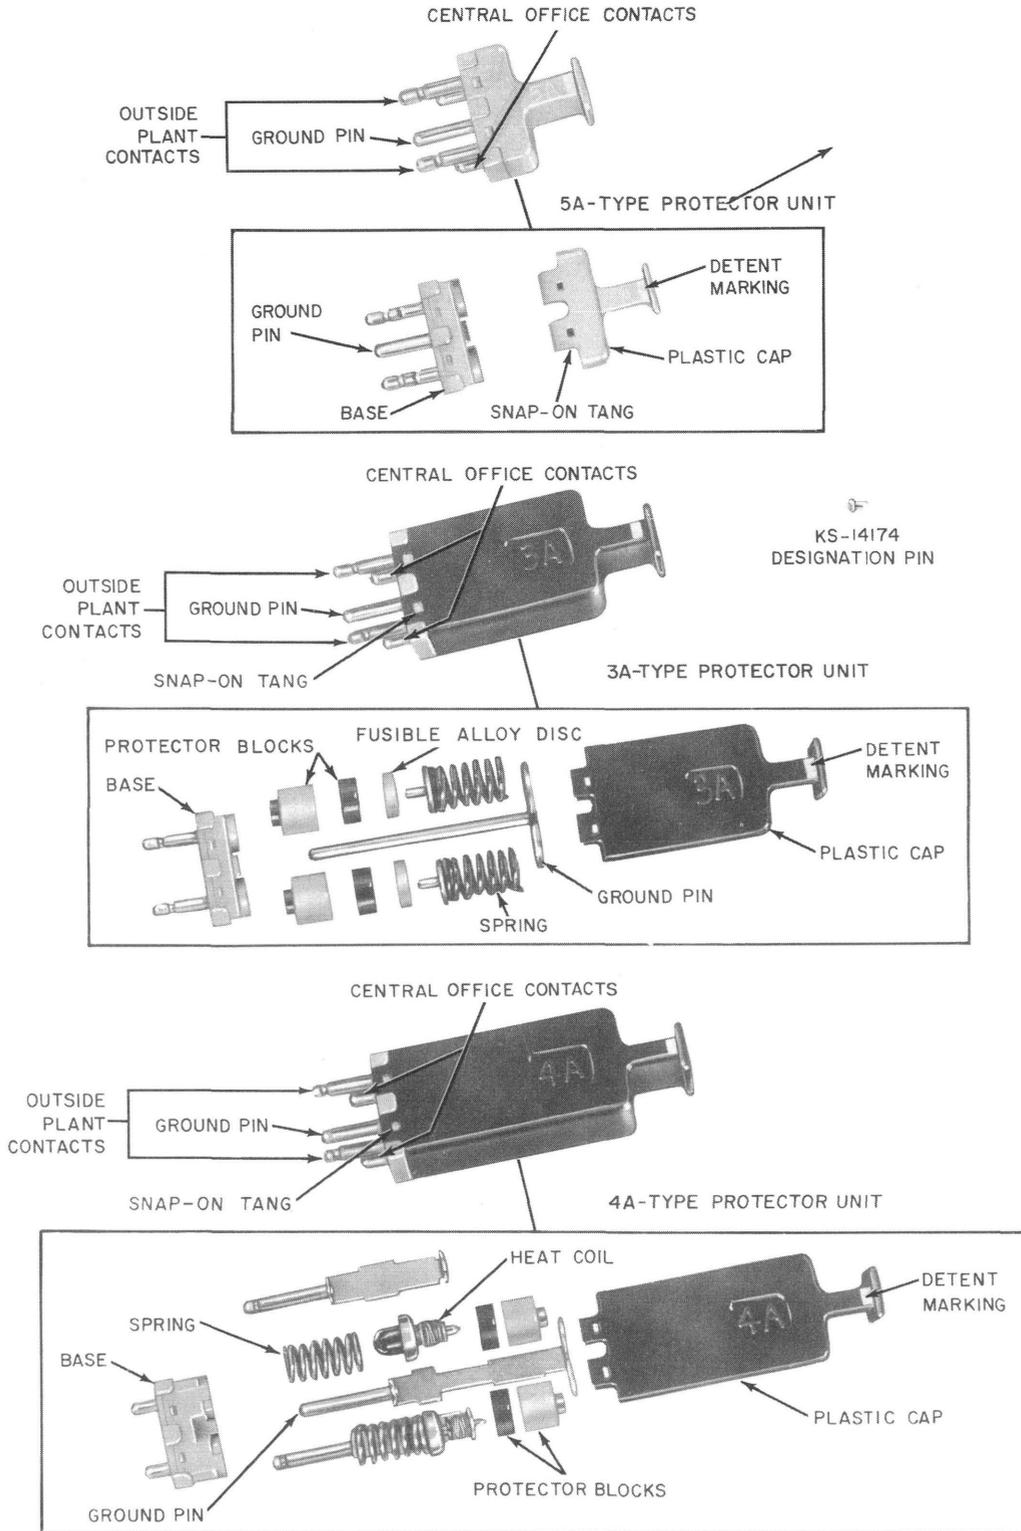
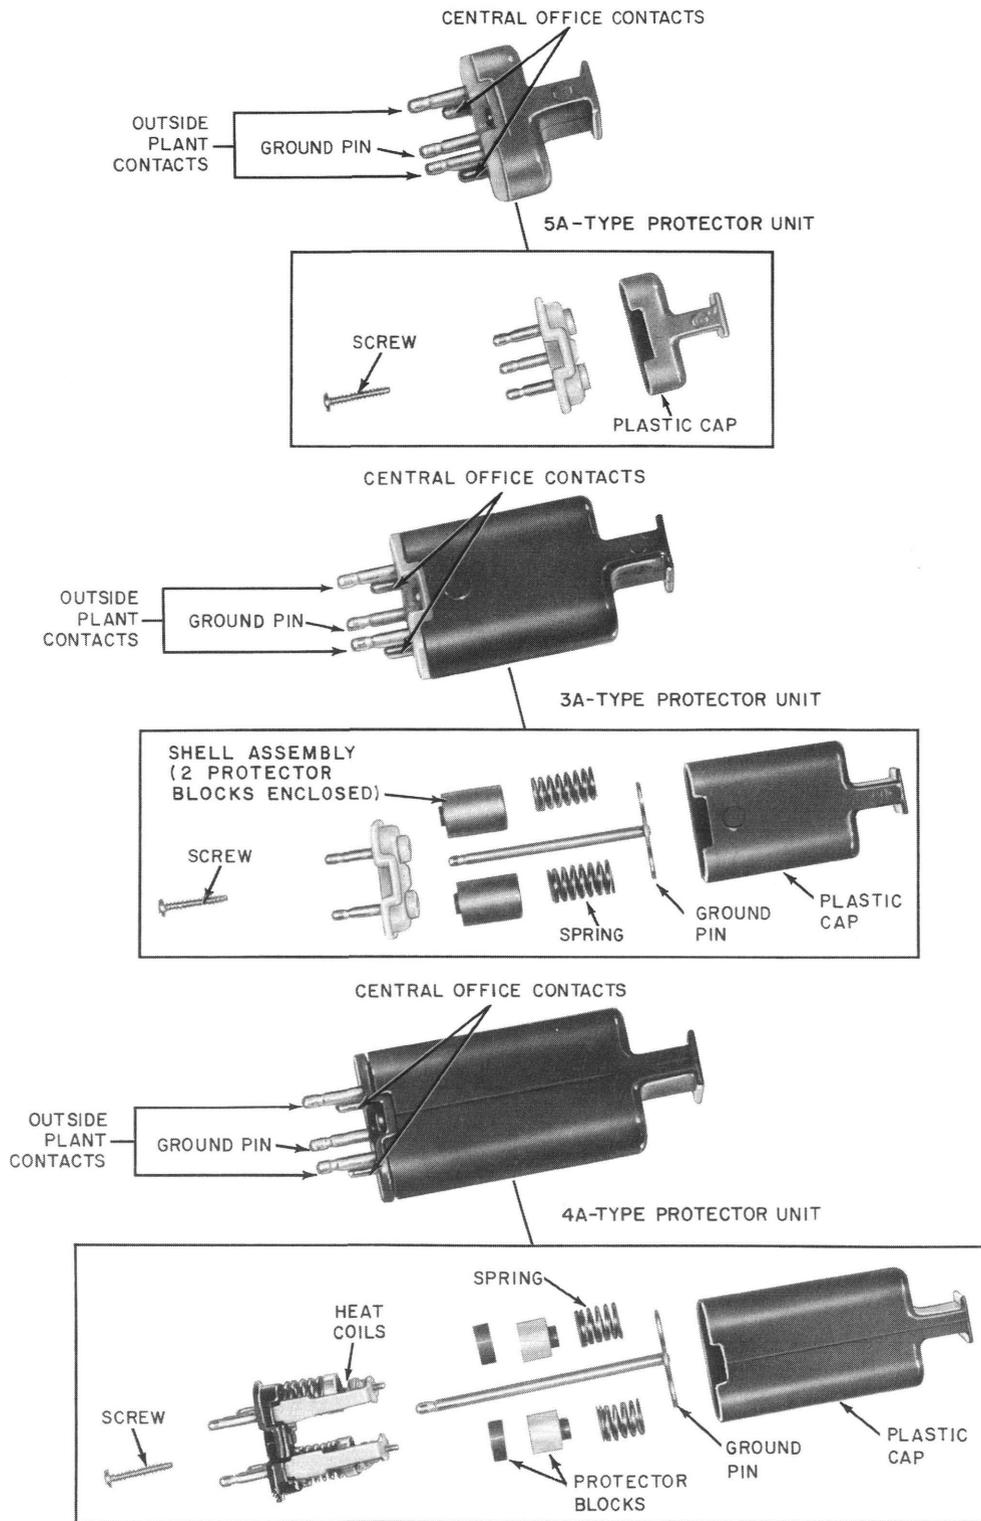

Fig. 6—Presently Manufactured Protector Units and Designation Pin
Fig. 7—Older-Type Protector Units for 302A1 and 302B1 Connectors
2.13 Presently manufactured protector units are shown in Fig. 6 and 7. Protector units designed for the 302A1- and 302B1-type connectors
(Fig. 7) have four gold-plated contact pins and one solder-plated ground pin. Protector units designed for the 302A2-, 302B2-, and 303-type connectors (Fig. 6) have five solder-plated contact pins.
2.14 Older-type protector units for the 302A1- and 302B1-type connectors were larger than presently manufactured protector units as shown in Fig. 7.
2.16 Voltage protection only is provided by two pairs of carbon blocks which are enclosed by the plastic cap of the 3A protector unit as shown in Fig. 6 and 7. These units are used on circuits where sneak current protection is not required.
2.21 Three types of protector units (Fig. 6 and 7) can be used with the 302- and 303-type connectors. The 3A-type protector unit nominally provides 500-volt protection and is used with circuits which do not require current protection, such as exists with the No. 1 Electronic Switching System (ESS). The 4A-type protection unit nominally provides 500-volt protection and has head coils for current protection. The 5A-type protector unit is a dummy protector and is used where outside plant cable is not exposed and heat coils are not required. These types of protector units are readily identified by their length. The 5A-type unit is shortest, the 3A-type unit is of intermediate length, and the 4A-type unit is longest.
2.23 Except for regular service, a designation pin (Fig. 7) with list number, given in Table A, is to be inserted in the hole provided in the jack group of the 302- or 303-type connector. For regular service (standard circuit), no designation pin is used.